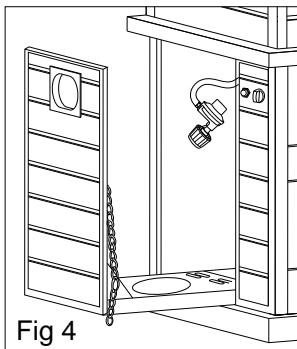

Fig 4
1. Open the door, put the chain and control valve outside. See Fig 4.